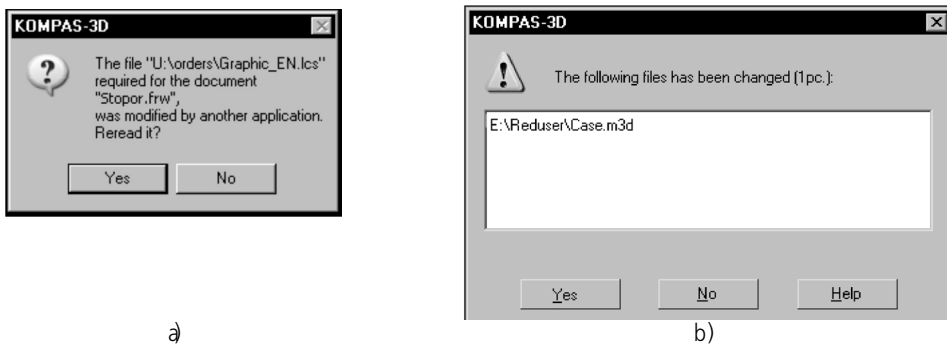

Fig. 5.7. Message: a) on modification of a line style library; b) on modification of a model opened for reading
File Modification Management	This option managers changes in shared files as well as in read-only files. Enabling this option means that the system will check whether the file has been modified by any other user. In case of a positive check result, a message will be displayed offering to reread the file (example see Fig. 5.7).
Enable Reading and Writing	This option allows other workstations to read, edit and save the files that are linked to documents opened on your workstation. If the File Modification Management option is enabled, you shall receive a notification about any modifications to the linked file made by any other user (Example : see Figure 5.7, a).
Examples of notifications of shared files modifications are given in the Figure 5.7.
- ▼ Figure 5.7 a) gives an example of message that contains notification on a line style library modification.
- ▼ Figure 5.7 b) gives an example of message that contains notification on modifications of the read-only model opened on your computer.
In case any other user changes the source document of external link (e. g. fragment or base part) messages similar to those shown in Figure 5.7 b) shall be displayed. Buttons **Yes** and **No** shall function in the same manner as during modifications of a style library: **Yes** button means immediate rereading of the source, and **No** button postpones rereading.